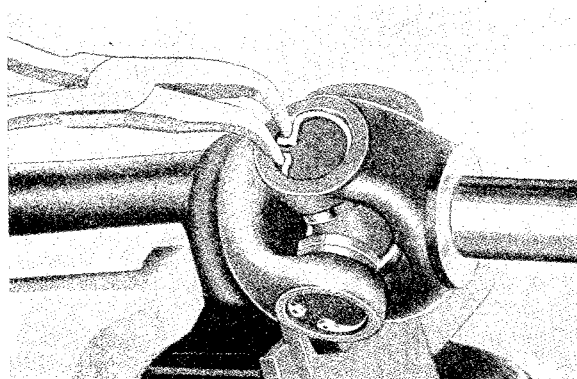

Fig. 4-124. Removal of snap ring
1. Remove the snap rings securing the needle bearings in the yokes, see Fig. 4-124.